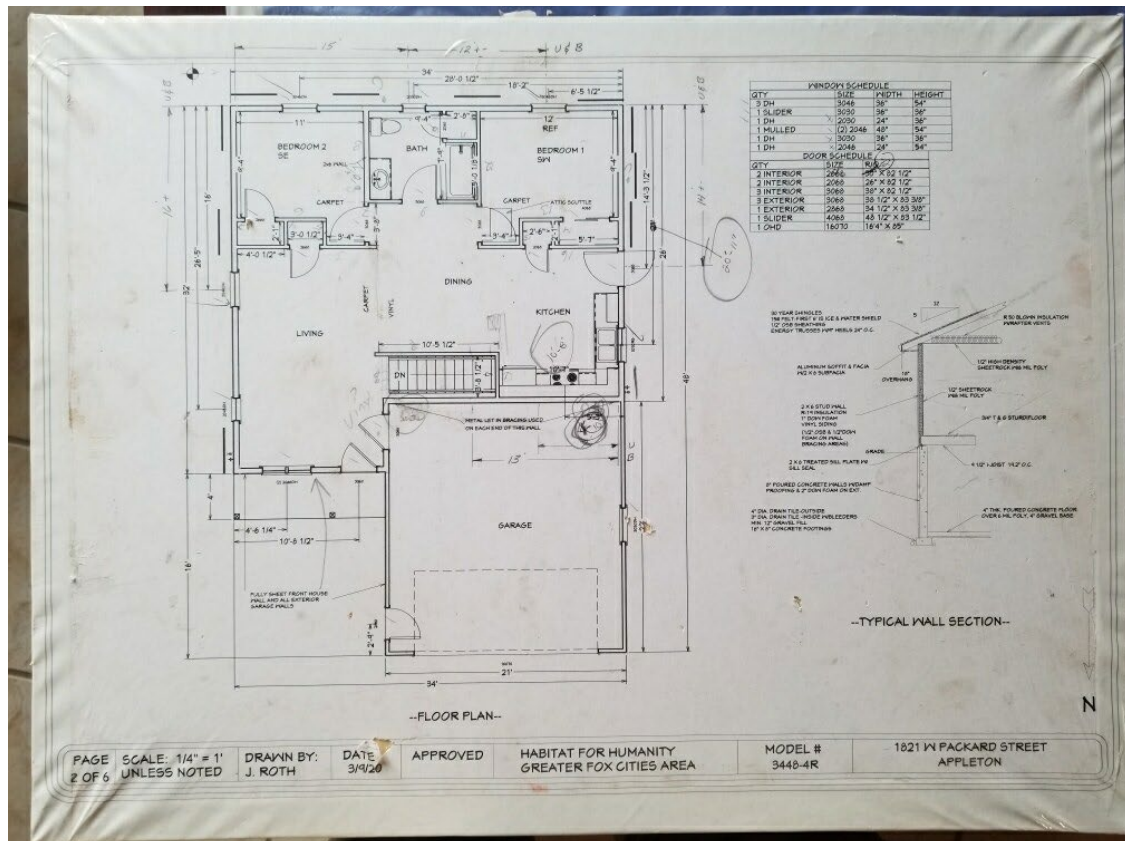

Figure 3-3. Plate Layout Drawing.
1. The Plate Layout Drawing, a 24"x36" printed layout (typically mounted on $\frac{1}{8}$ " plywood) of the main floor deck showing both exterior and interior walls, depicts all full-length plates and any pre-defined plate lengths (see Figure 3-3). The Drawing is usually created offsite prior to the build day and stored in the construction trailer. If the drawing is not found onsite, create one using the following steps.